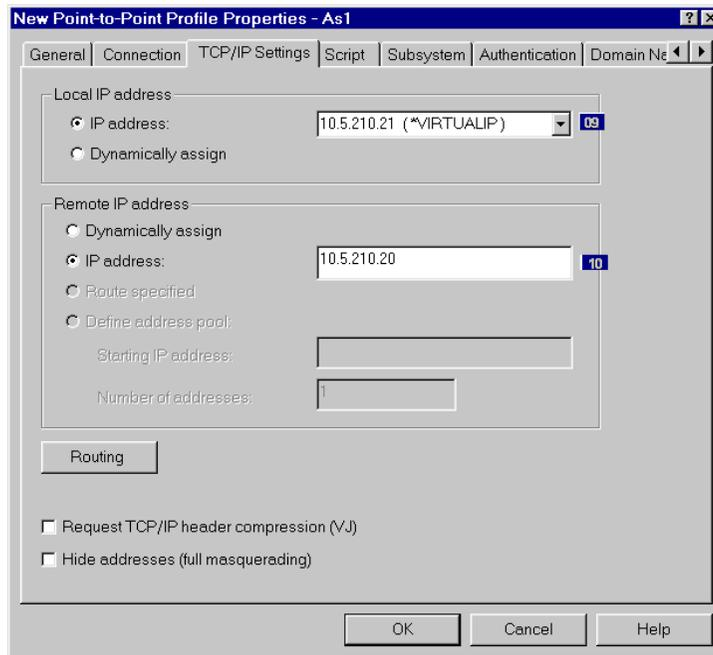

Figure 123. Setting the TCP/IP Settings page for the C4S3 PPP profile
9. Click the **TCP/IP Settings** tab (Figure 123).